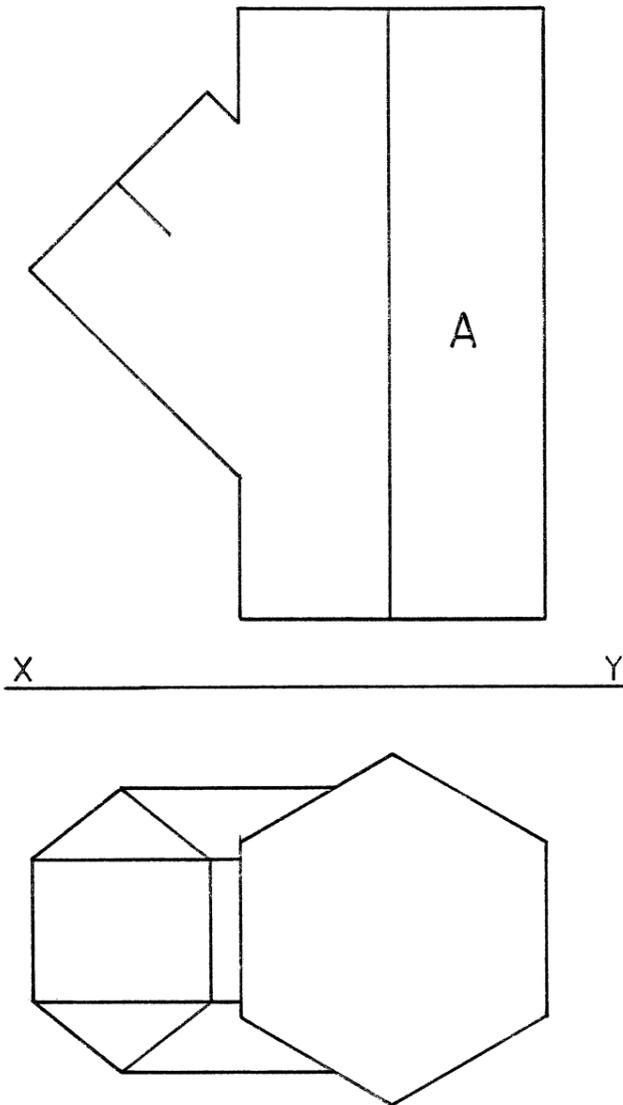

FIG. 5
Figure 5 shows the incompletd front view as well as a top view of a hexagonal branch pipe penetrating a hexagonal main pipe (A).